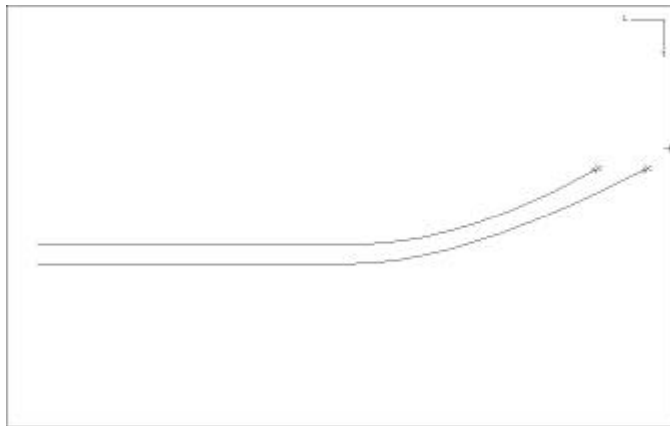

Figure 1-7: *Chine and Deck Edge curves*
3. With the *Chine* curve selected, right-click on the **Move** button. In the **Move Selection** dialogue, for **T** enter **P0.3** and click **OK**. (See Figure 1-7.)